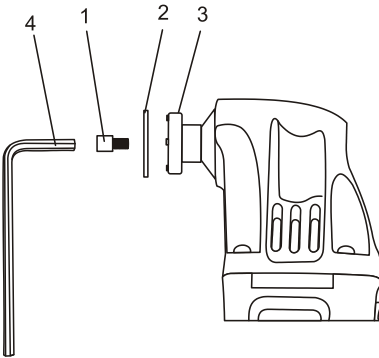

Fig. 1
1. Remove the screw (1) and washer (2) from the accessory holder (3) by turning the screw counter clockwise. Use the 5 mm Hex key (4) if the screw is too tight to be removed by hand (Fig. 1).